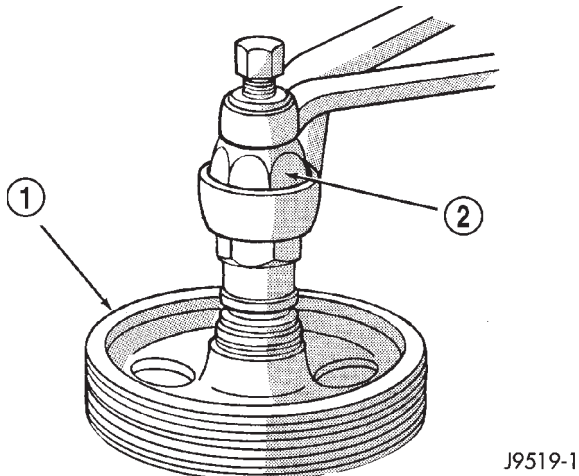

Fig. 5 Pulley Installation
- (1) Replace pulley if bent, cracked, or loose.
(2) Install pulley on pump with Installer C-4063-B or equivalent installer (Fig. 5). The front edge of the pulley hub must be flush with the end of the shaft. Ensure the tool and pulley are aligned with the pump shaft.
(3) Install pump assembly.
(4) With Serpentine Belt, run engine until warm (5 min.) and note any belt chirp. If chirp exists, move pulley outward approximately 0.5 mm (0.020 in.). If noise increases, press on 1.0 mm (0.040 in.). **Be careful that pulley does not contact mounting bolts.**